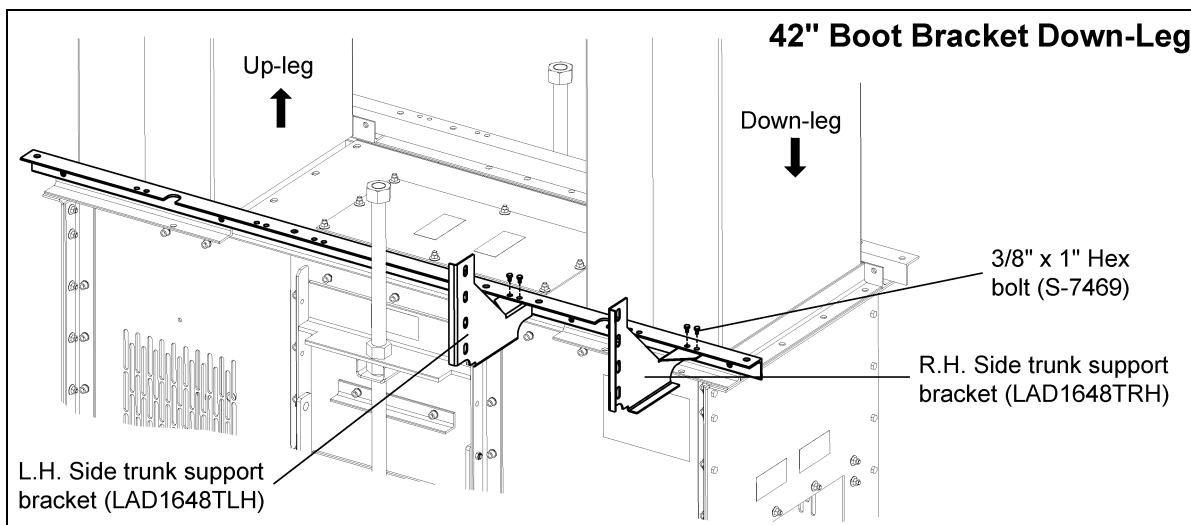

Figure 6D 42" Down-Leg Boot Bracket
2. **42" Down-Leg Boot Brackets:** Use 3/8" x 1" HHCS bolts (S-7469) and 3/8" flange nuts (S-10028) to attach the ladder support brackets (LAD1648TRH and LAD1648TLH) to the bottom of the boot tie angle using holes indicated. (See Figure 6D.)